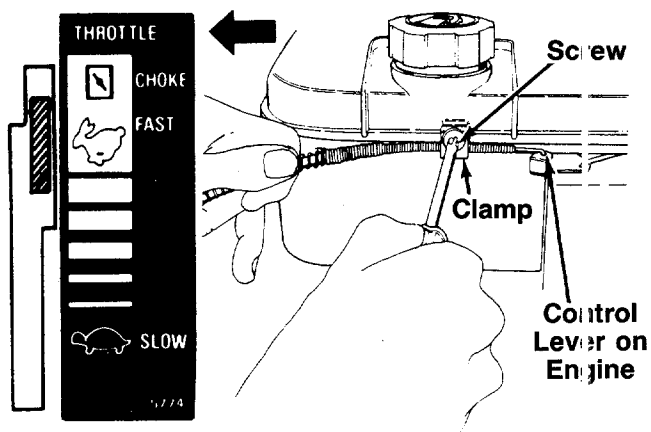

FIGURE 6A.—Models 464R & 474R
1. Push the throttle control lever on the handle all the way forward to CHOKE, then back it off **two "clicks"** (approximately 5/16"). See figure 6A.
2. The throttle control cable is attached to the upper handle. Route the throttle control cable under the lower handle and inside the handle mounting bracket. Hook the "Z" end of the throttle control cable into the hole in the control lever on the engine. See figure 6A.
3. Using a screwdriver, remove the screw on the cable clamp shown in figure 6A. Slip the control cable under the clamp. Replace the screw, but do not tighten (cable must still move freely beneath the clamp).
4. Push the control lever on the engine as far toward the **rear** of the engine as it will go. See figure 6A. Pull the throttle control cable toward the rear of the engine to remove any slack in the cable as you tighten the screw.